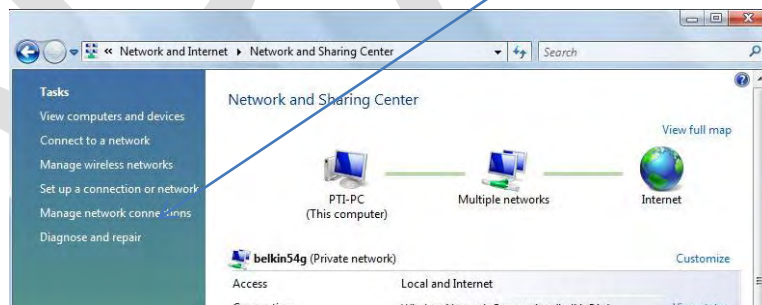

Fig 7
- c. When the window opens click on “**Manage Network Connections**” (Fig 7)